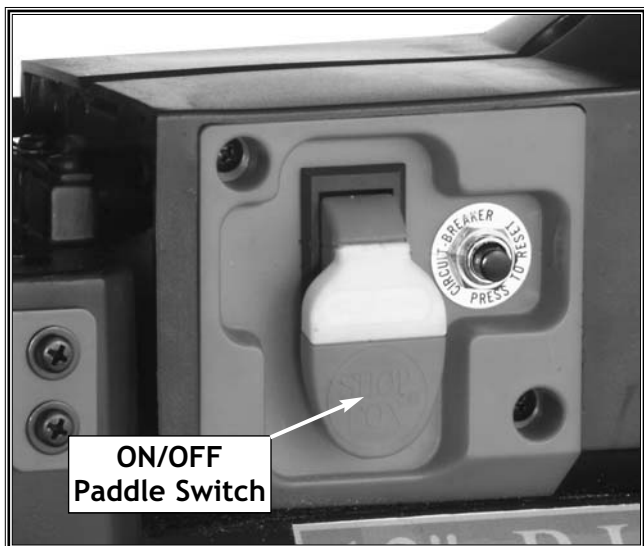

Figure 26. Toggle the paddle switch for startup and shutdown.
1. Flip the paddle switch up to turn the planer *ON*. See Figure 26.